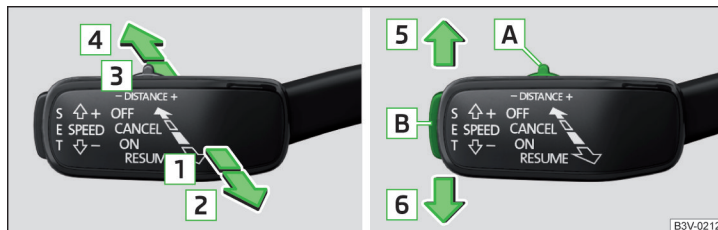

Fig. 282 Operating elements of the speed limiter
Overview of the control elements of the speed limiter » Fig. 282
- ▶ Put the ACC operating lever in position **ON** » Fig. 282.